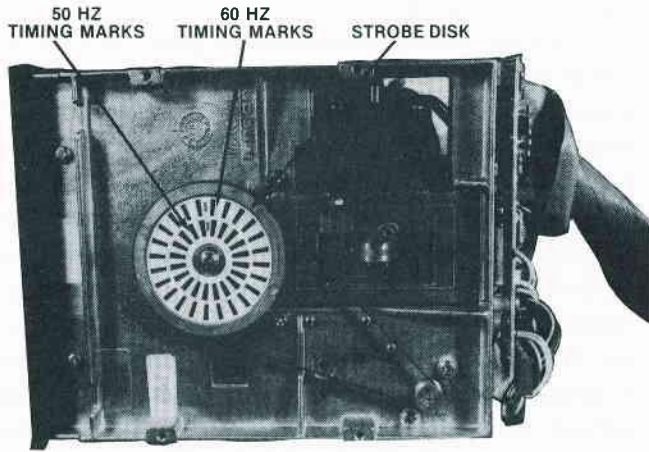

Fig. 5-14. The disk drive set on its side with the strobe wheel facing you.
1. Disassemble the drive and set on its side as shown in Fig. 5-14.
3. Locate the timing marks on the strobe disk (see Fig. 5-14). The outer circle of markings is used for 60 Hz electrical systems such as that common in the United States. The inner circle of strobe markings is used with 50 Hz line power such as that found in Europe. This concept of speed adjustment is amazingly simple, and quite accurate. When you place the strobe disk in the light of a fluorescent lamp and cause the disk to spin, you will notice that the strobe disk marks slowly rotate in one direction or another, depending on whether the disk speed is fast or slow. This action is much like the effect seen with movie film when stagecoach wheels seem to be rotating in the direction opposite the movement of the coach. The wheels are rotating at a different speed than the film is moving through the projector so you see this strange effect. The marks on the strobe disk are spaced so they appear stationary when the speed is exactly 300 rpm.